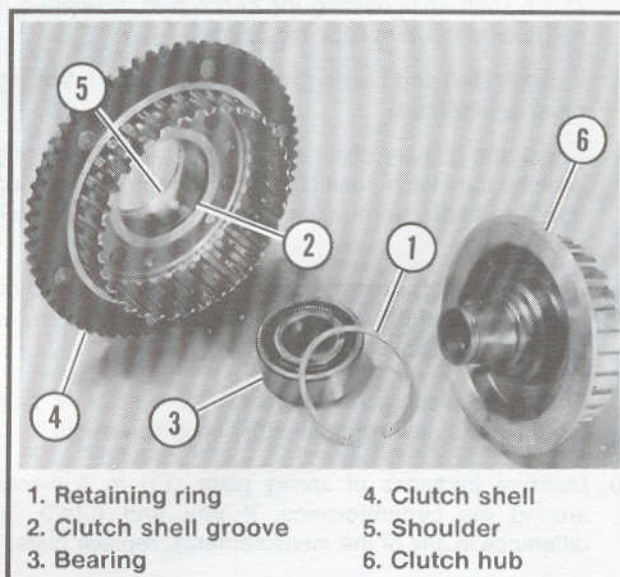

Figure 6-16. Remove Bearing From Clutch Shell
4. See Figure 6-16. Remove retaining ring (1) from clutch shell groove (2). Press bearing (3) out of clutch shell (4) using a suitable press plug and arbor press. The press plug must be placed on the bearing at the primary chain sprocket side of the clutch shell because the bearing bore has a shoulder (5).
1. See Figure 6-16. With an arbor press and a press plug that contacts outer bearing race only, press bearing (3) into clutch shell (4) bore until it bottoms against shoulder (5). Install retaining ring (1) in groove (2).
3. See Figure 6-16. With lock ring pliers, expand external retaining ring (1) and install into groove next to bearing.